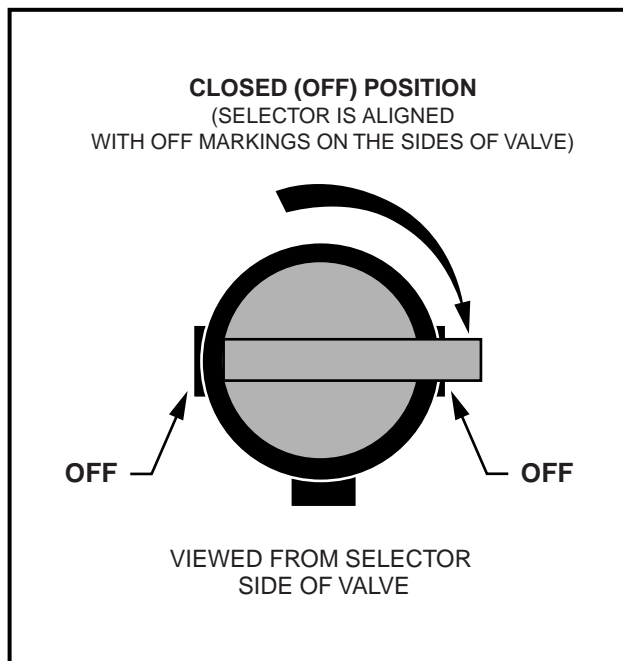

Figure 3-2 Closed Fuel Shut-off Valve
- Turn fuel shut-off valve to closed (OFF) position (Figure 3-2, Page 3-3).
- 3.1. Place the Forward/Reverse handle in the NEUTRAL position. Turn the fuel shut-off valve to the closed (OFF) position and run the engine until fuel remaining in the carburetor and fuel lines is used up and the engine stalls (**Figure 3-2, Page 3-3**).